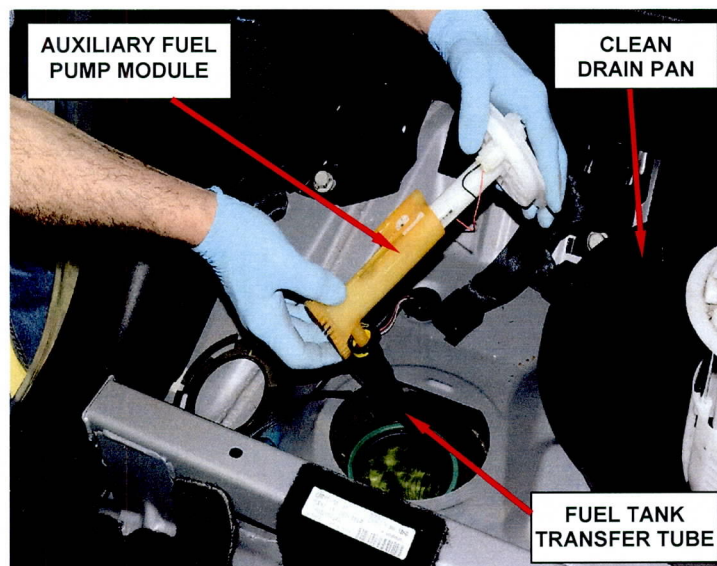

Figure 6 – Auxiliary Fuel Pump Module
- Carefully lift the auxiliary fuel pump out of the fuel tank and disconnect the fuel tank transfer tube. Then remove and save the auxiliary fuel pump module from the fuel tank (Figure 6).
14. Connect the auxiliary fuel pump module to the fuel tank transfer tube in the fuel tank and then lower the auxiliary fuel pump module into the fuel tank (Figure 6).